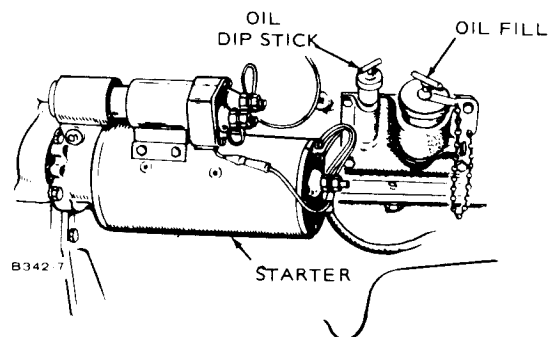

FIGURE 17. OIL FILL AND DIPSTICK LOCATION
2. Fill crankcase to "L" (low) mark on dipstick (Figure 17).